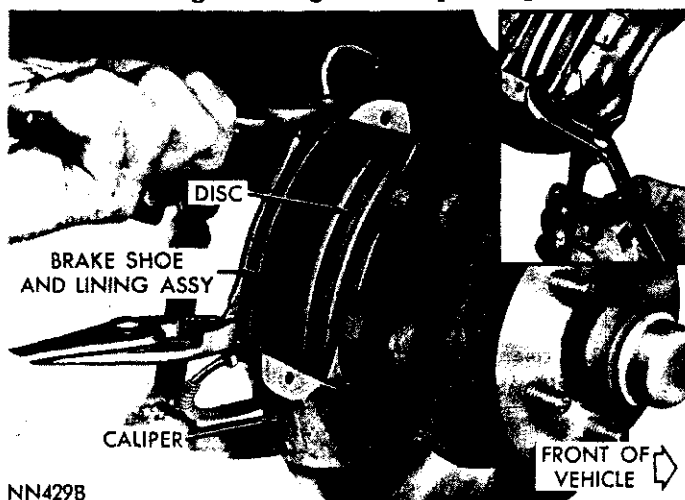

Fig. 6—Removing Brake Shoe and Lining
- (1) Raise vehicle on a hoist or jackstands.
- (2) Remove wheel covers, and wheel and tire assembly.
- (3) Remove shoe retainer spring assemblies.
- (4) Using two pair of pliers, grasp tabs on outer ends of shoes, remove shoe and lining by pulling outward (Fig. 6). Due to a ridge of rust that may build up on rotor surface outside of lining contact area, it may be necessary to force piston back slightly into bores. Pistons can be forced back into bores by forcing shoe back with a water pump pliers placed on corner of the shoe and caliper housing (Fig. 6).